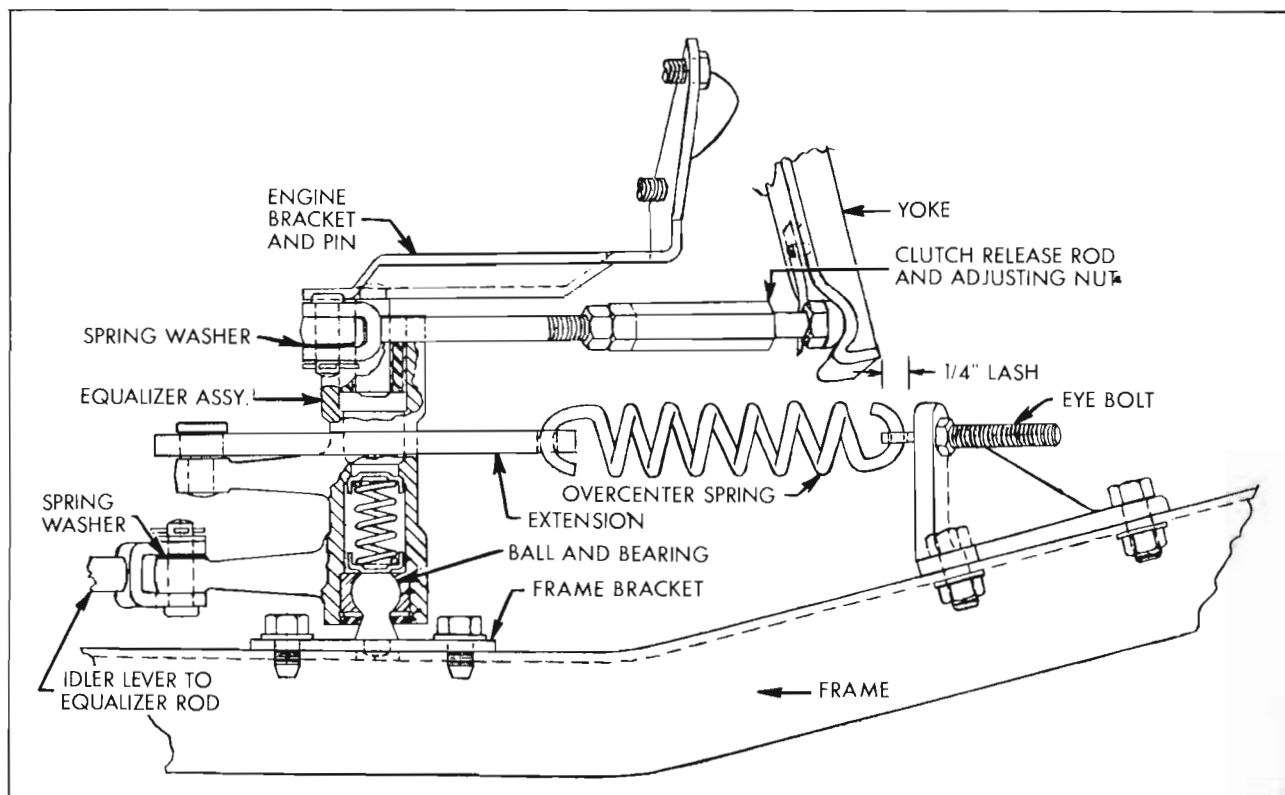

Figure 4-4—Clutch Release Equalizer
An adjustable pedal rod and clevis extends through the cowl to connect the pedal to an idler lever which pivots in a bracket bolted on the forward side of the cowl. An idler lever to equalizer rod extends downward to the clutch release equalizer. The equalizer pivots between the engine at one end and the frame at the other. The clutch release rod and adjusting nut extends from the equalizer to the clutch release yoke. See Figure 4-4.
release bearing to ride against the release levers all of the time, resulting in abnormal wear of these parts. It may also cause clutch slippage and abnormal wear of the driven plate, flywheel, and pressure plate if pressure on the release levers is enough to prevent positive engagement of the clutch. See Figure 4-4.
1. Make certain that return spring pulls clutch pedal firmly against pedal bumper when pedal is released. If pedal does not contact bumper, check pedal and linkage for binding or lack of lubrication. Check condition of pedal return spring. Check condition of equalizer over center spring and make sure that spring eye bolt is fully tightened. See Figure 4-4.